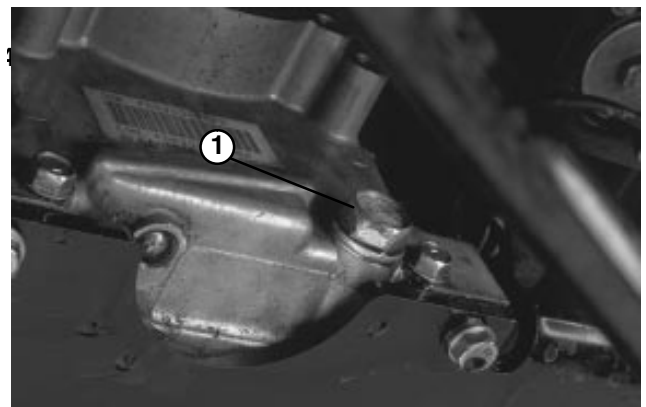

Figure 27
2. Set drain pan under the oil pan and in line with drain plug (Fig. 27).